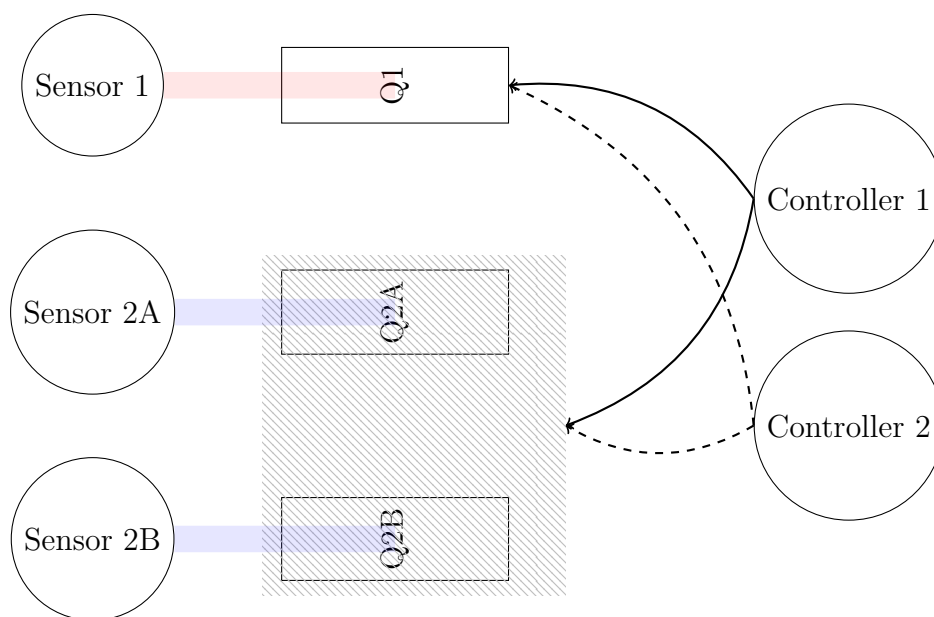

Figure 2: Task communication via message queues.
In this question, intertask communication in FreeRTOS will be addressed. We consider the scenario depicted in Figure 2.
**Sensor1** The sensor task for Sensor 1 generates one value in the range of 100 to 199 every 200 ms and puts every newly generated value into Queue 1 (Q1 in Figure 2). Its counter is initially set to 100, and increases every 200 ms by 1 until reaching 199. If the counter has the value 199 and the sensor task for Sensor 1 is executed again, the counter is reset to 100 (wrap-around)
**Sensor2A** The sensor task for Sensor 2 behaves similar to the sensor task of Sensor 1, but it generates one value in the range of 200 to 249 every 500 ms and puts every newly generated value into Queue 2A (Q2A in Figure 2). The counter of this sensor task initially has value 200.
**Sensor2B** The sensor task for Sensor 2 behaves similar to the sensor task of the other sensors, but it generates one value in the range of 250 to 299 every 1400 ms and puts every newly generated value into Queue 2B (Q2B in Figure 2). The counter of this sensor task initially has value 250.